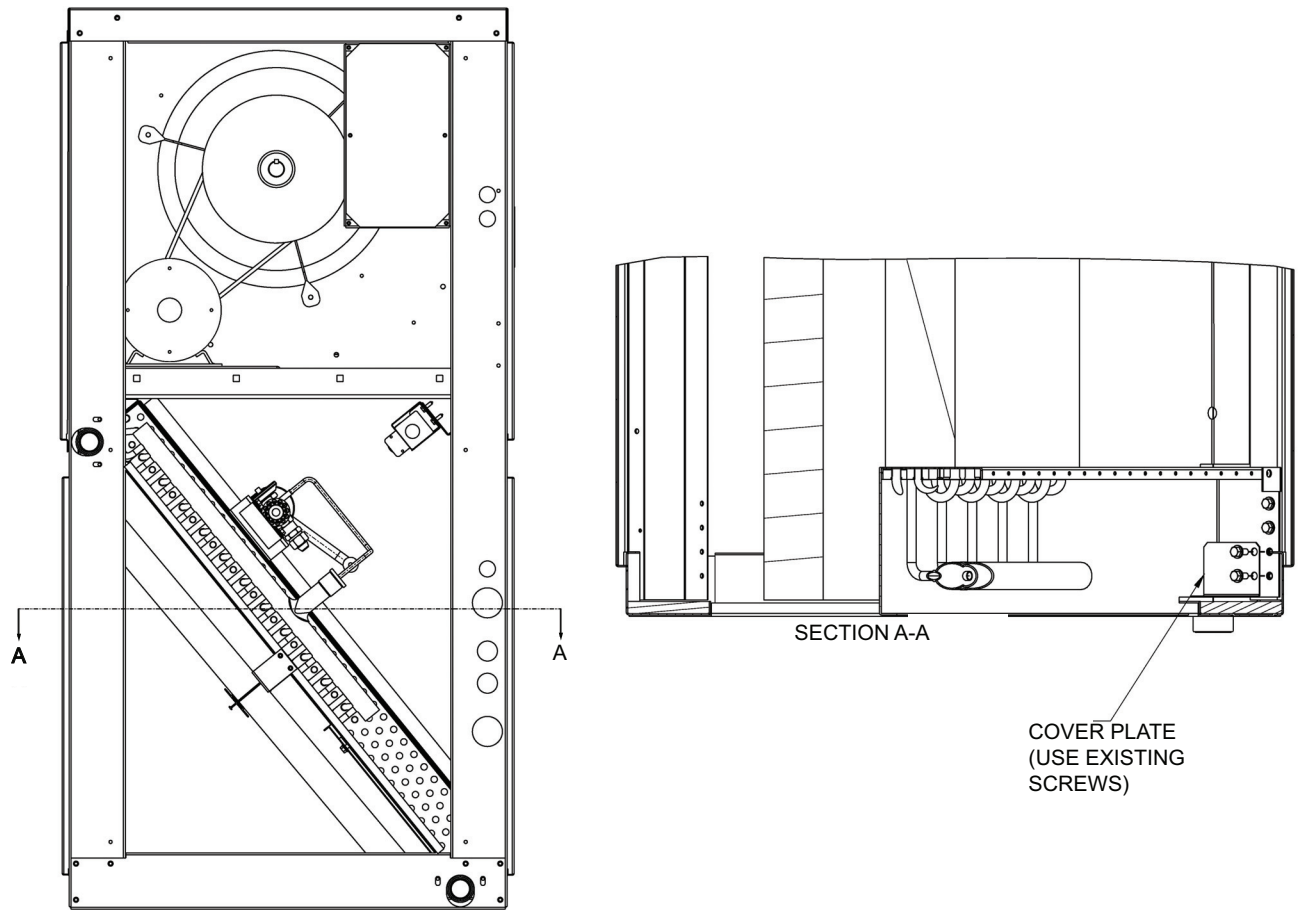

Fig. 7 — Cover Plate for DrainPan Location
1. Locate the cover plate for Drainpan. Remove the two screws and install the cover plate. (See Fig. 7.)